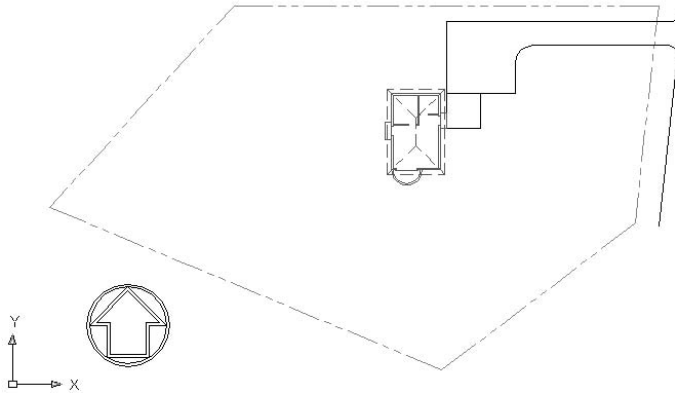

FIGURE 12.13 The cabin Xref is located on the site drawing.
5. Zoom Previous to a view of the whole site. The cabin is oriented correctly on the site (see Figure 12.13). This is the same view as in Figure 12.1 (shown earlier).